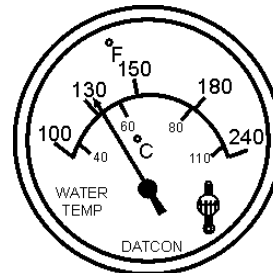

Figure 49. Coolant Temperature Gauge
14. The coolant temperature gauge (Figure 49) will indicate the coolant temperature. Under normal operating conditions the coolant temperature is between 165 and 203 degrees Fahrenheit (74 ~ 95 degrees Celsius).